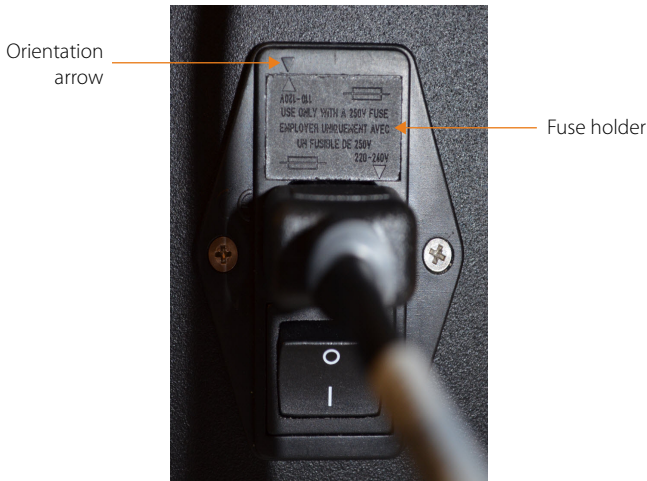
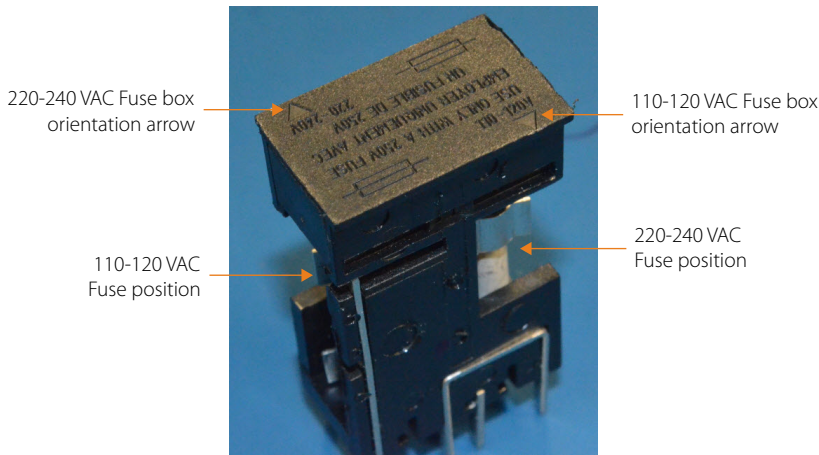

Figure 3-4: Fuse holder in power entry module.
Figure 3-5: Fuse position in fuse box.
1. Locate the fuse box in the power entry module on the rear panel of the instrument (Figure 3-4).
4. There are two fuse positions in the fuse box. Insert a 2A time lag high capacity 250 VAC fuse (P/N 011-800), making sure to insert it in the correct position for your laboratory voltage as shown in Figure 3-5.
5. Reinsert the fuse holder, making sure to align the arrow on the fuse box associated with the correct voltage for your laboratory (110-120 VAC or 220-240 VAC, shown in Figure 3-5) with the orientation arrow on the power entry module (Figure 3-4).